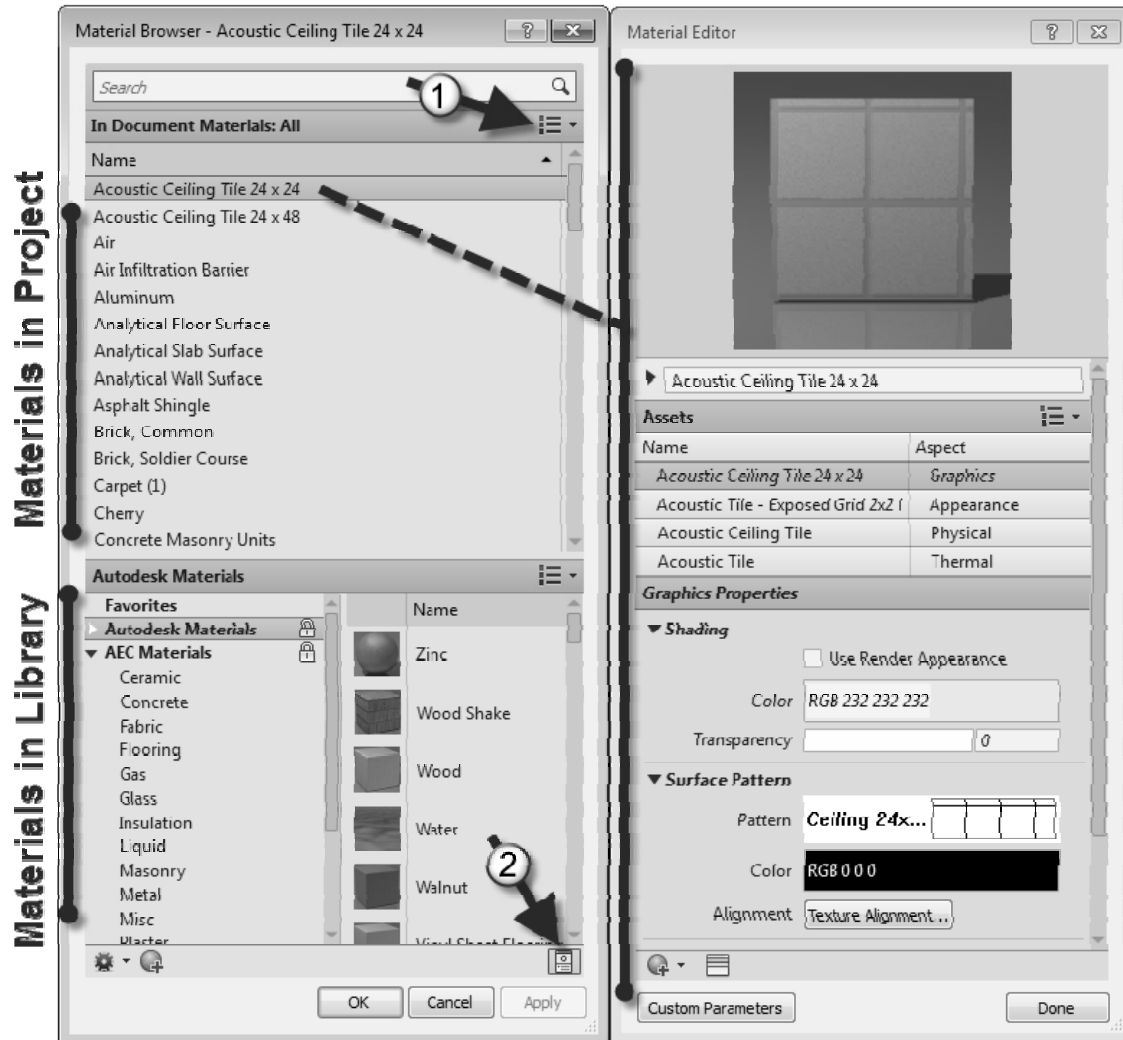
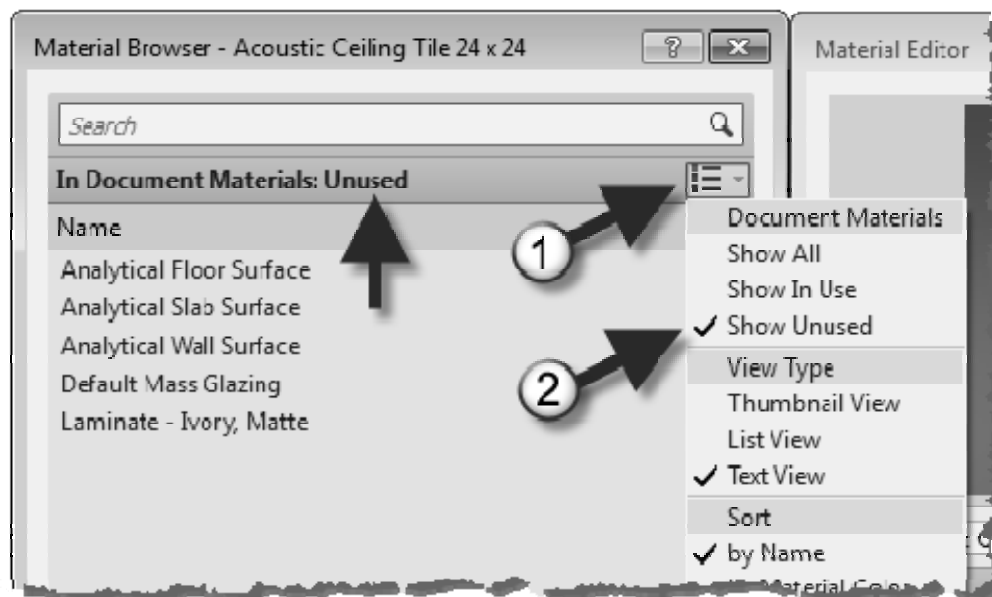

FIGURE 4-2.1 Materials dialog
FIGURE 4-2.2 Sort by Material usage state
You will see the *Materials* dialogs shown below (Figure 4-2.1).
**FYI #1:** Clicking the drop-down list, pointed out with the #1 arrow, in Figure 4-2.1 allows you to switch the material list to just be text (as shown) rather than a preview (see also Figure 4-2.2). This adjustment allows you to see more items in the limited space.
In the *Materials* dialogs (Figure 4-2.1), notice the list of *Materials* on the left side of the screen.
Selecting by the drop-down list (#1, Figure 4-2.2), allows you to narrow the list down to just *Materials* used in the project, or not used. The default is *Show All*, so both used and not used appear in the list.